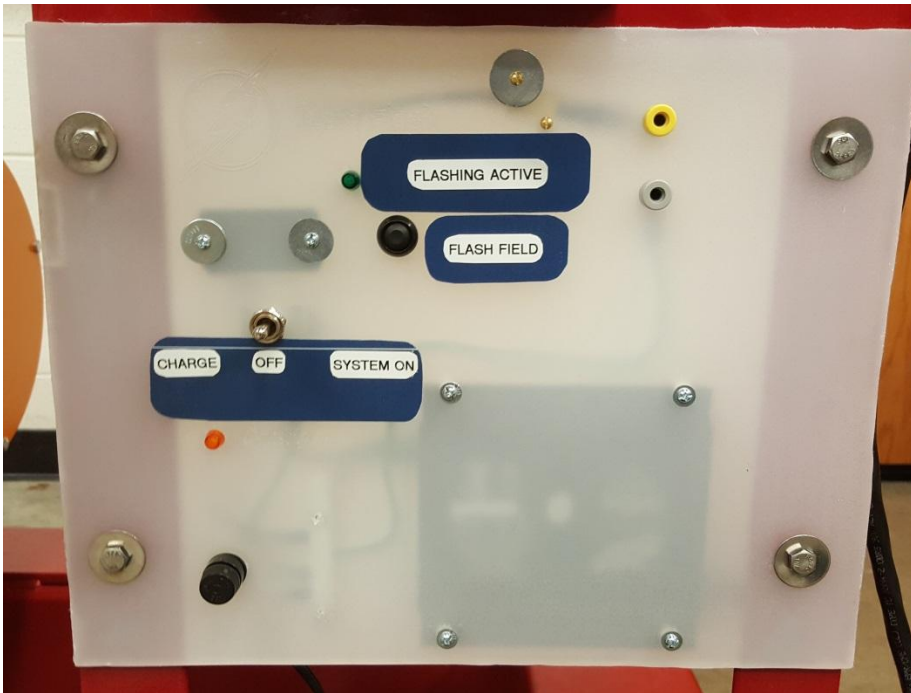

Figure 7 Black Start System Interface
- Turn on Ship to shore plug (figure 7)